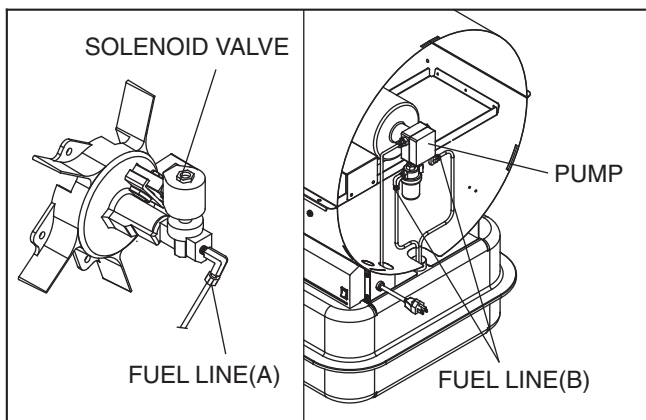

Figure 12. Tighten fuel line
- Use 1/4" wrench and tighten fuel lines(A) at solenoid valve and at pump. (See Figure 12)
- Use 3/8" wrench and tighten fuel lines (B) at pump, pump fuel filter assembly.